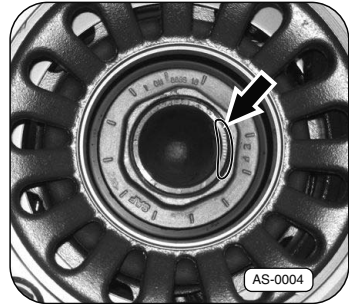

Fig. 4 · Right-hand axle stub end:
The axle's serial No. is embossed on the axle journal, on the right-hand side, viewed in the direction of travel (fig. 4, item 1).